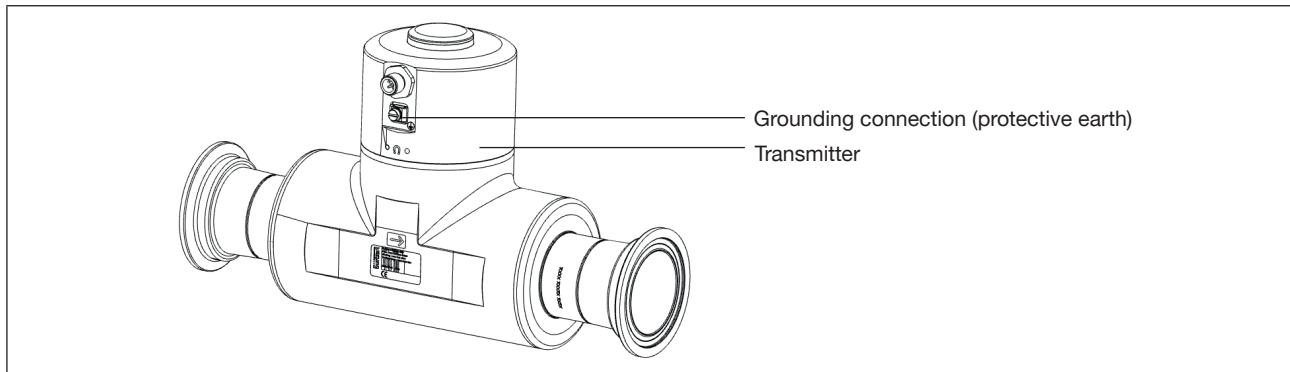

Figure 16: Grounding connection
- For a proper function of device always connect the yellow/green conductor to the grounding connection on the outer surface of the transmitter housing (see Figure 16).